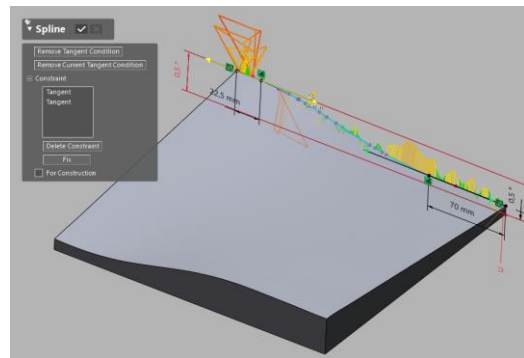

Figure 475
- To edit the Spline Tangent Lengths, double-click on the Spline inside of the Sketch to enter the Properties Dialog Tree. Click, hold, and drag the Tangent Arrow around to create a smoother tangent transition. (**Figure 475**)